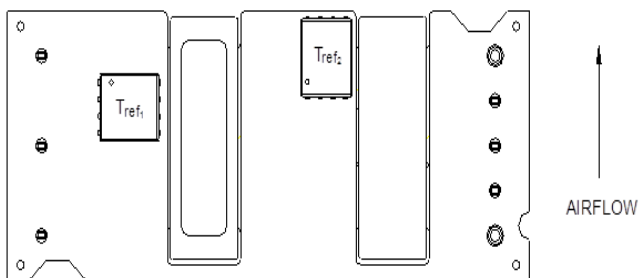
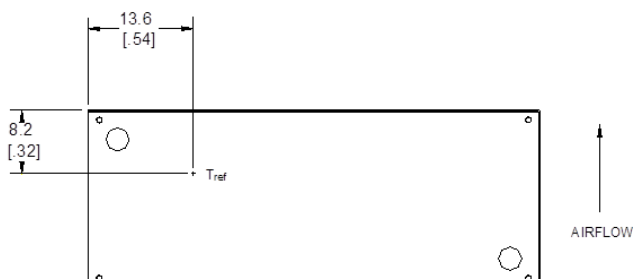

Figure 13. T_{ref} Temperature Measurement Locations for Open Frame Module.
Figure 14. T_{ref} Temperature Measurement Location for Module with Heatplate.
To provide protection under certain fault conditions, the unit is equipped with a thermal shutdown circuit. The unit will shutdown if the thermal reference point, T_{ref} , exceeds 135 °C (Figure 13, typical) or 120 °C (Figure 14, typical), but the thermal shutdown is not intended as a guarantee that the unit will survive temperatures beyond its rating. The module will automatically restart upon cool-down to a safe temperature.
The thermal reference points, T_{ref1} , and T_{ref2} used in the specifications for open frame modules are shown in Figure 13. For reliable operation these temperatures should not exceed 124 °C & 121 °C respectively
The thermal reference point, T_{ref} , used in the specifications for modules with heatplate is shown in Figure 14. For reliable operation this temperature should not exceed 98°C.